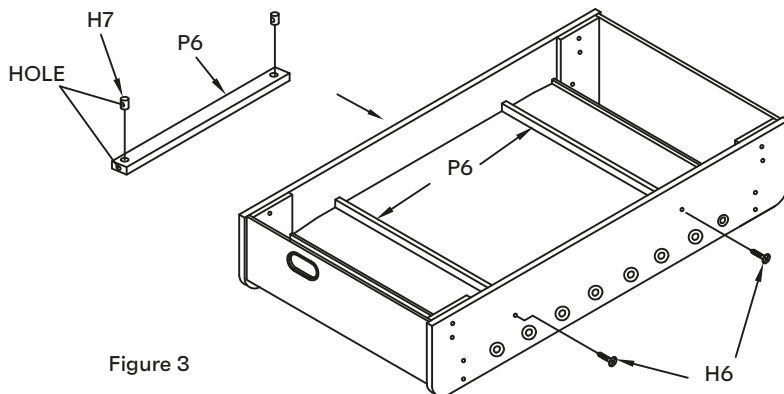

Figure 3
3. Insert the nut H7 into the hole of the support braces P6 as shown in figure 3. The hole of the nut align the hole of the braces. Place the playfield support braces P6 on the bottom of the playfield. Attach it with screw H6 as shown in figure 3.